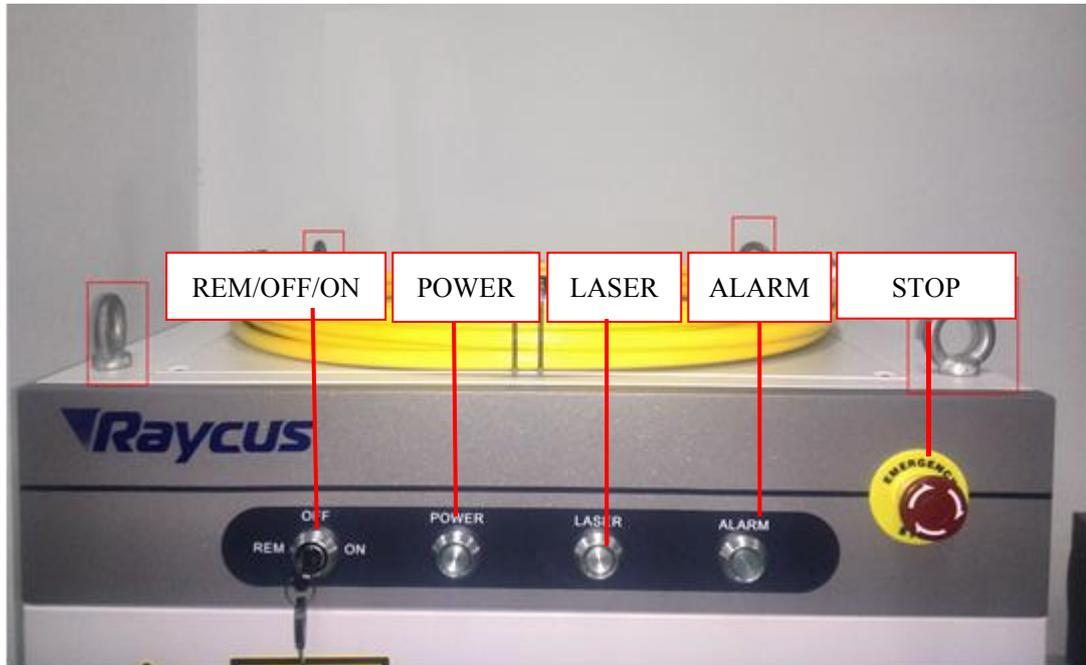

Figure 3: Front Panel View
Figure 3 shows the front panel.
**REM/OFF/ON:** Key switch, the power switch of the laser. Insert the key (Item 7 in Figure 3); either turn the key clockwise to the “ON” position or counterclockwise to “REM” position will power on the laser. Then the laser will enter a control mode depending on your previous setup in the “CONTROL” cable. You can refer to **4.6 Entering a Control Mode** for more details.
relative to “EGND”. If you don’t use remote emission control, left “LAS\_C” disconnected. The “MODULATION” cable need to be connected when the laser emission is controlled by remote modulation signal, otherwise can be left disconnected. The “RX” and “TX” of the “RS-232” cable should be connected to the “RX” and “TX” of the PC, respectively. “AD” and “RS-422” should be left disconnected. The PE of the cable for “INTERFACE” is not shown in Figure 3, but we recommend you to connect all the PE wires to the protective earth.